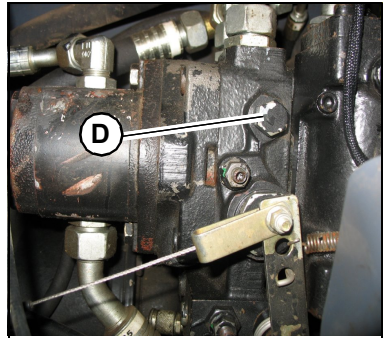

Figure 69 – Hydraulic System Bypass Valve (AL 100 Series)
3. Loosen the hydraulic system bypass valve (D, Fig. 69) one to two turns.